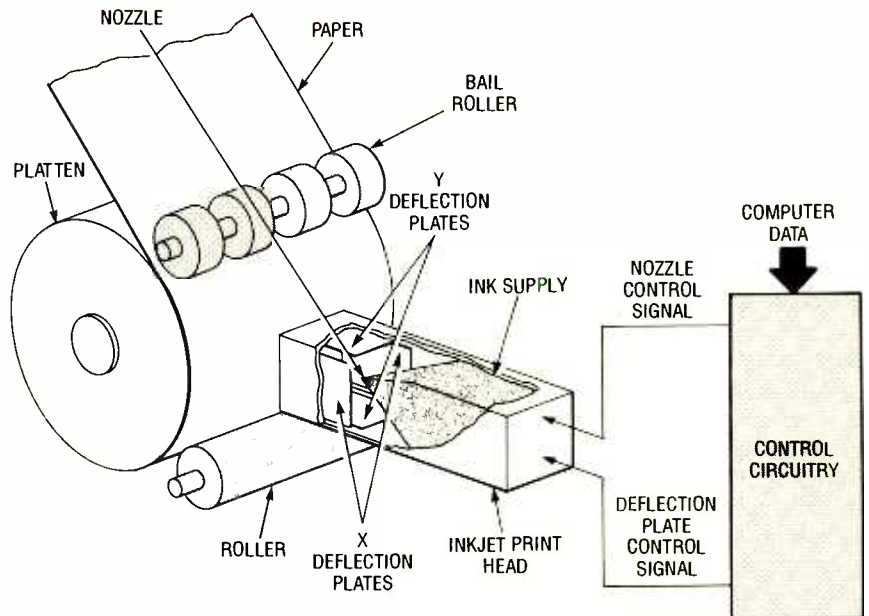

Fig. 4. An ink-jet print head squirts ink on paper under the direction of controlling logic circuitry.
**Ink-Jet Dot-Matrix.** Ink-jet print heads literally paint dot-matrix text and graphic characters onto a page surface (see Fig. 4). The ink comes from a